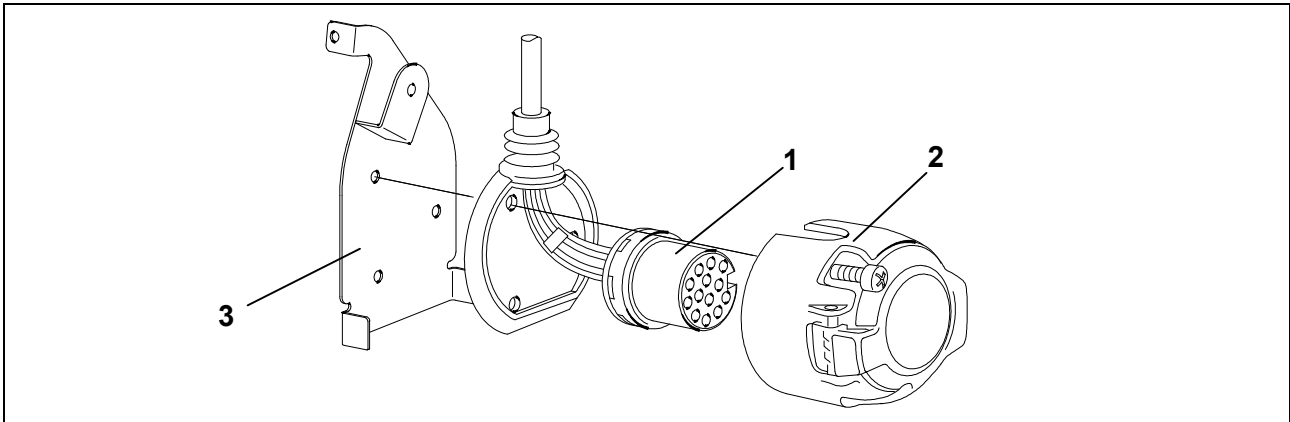

Fig. 2: Socket installation
6. Press the contact insert (Fig. 2/1) into the socket housing (Fig. 2/2) and push the rubber grommet towards the socket.
7. Screw the socket onto the holding plate (Fig. 2/3) using the supplied screws.